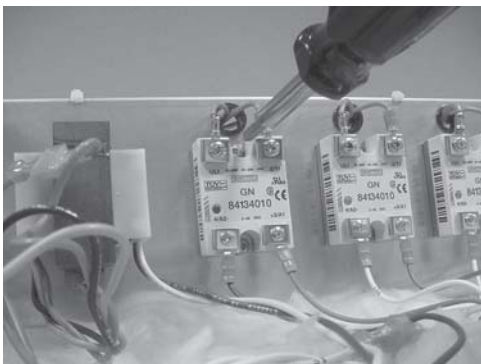

Figure 3-20
8. Using a Phillip's head screwdriver, remove the 2 screws securing the relay and remove relay from unit. Figure 3-20.